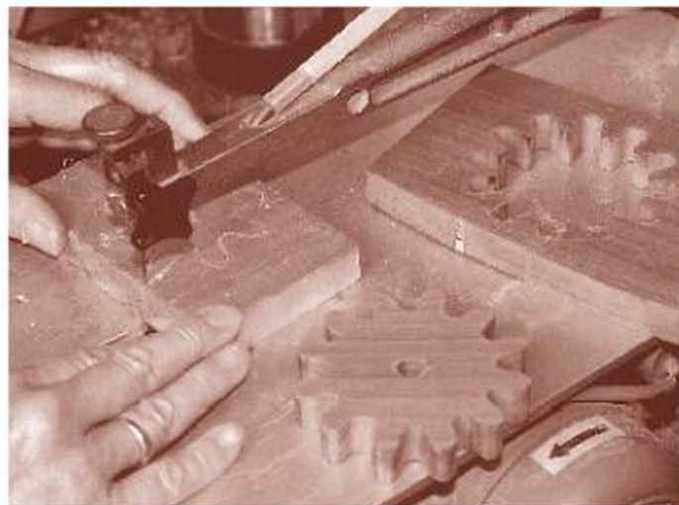

FIGURE 26-3
- 6 Finally, fret out the design. Take your time and go slowly so that all the sawn faces are crisp and smooth (Figure 26-3).